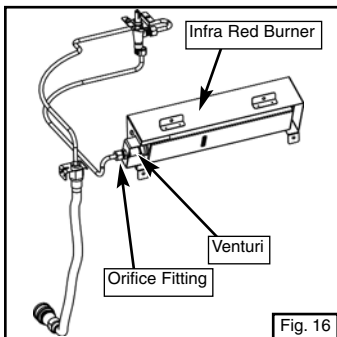

Fig. 16
1. Proper location of the burner with respect to the venturi and orifice fitting is important. To verify the proper factory installation of the burner and venturi, look at the unit from below and locate the burner and venturi. The burner inlet must be located in line with the venturi and the orifice fitting on the end of the fuel tube (Fig. 16).